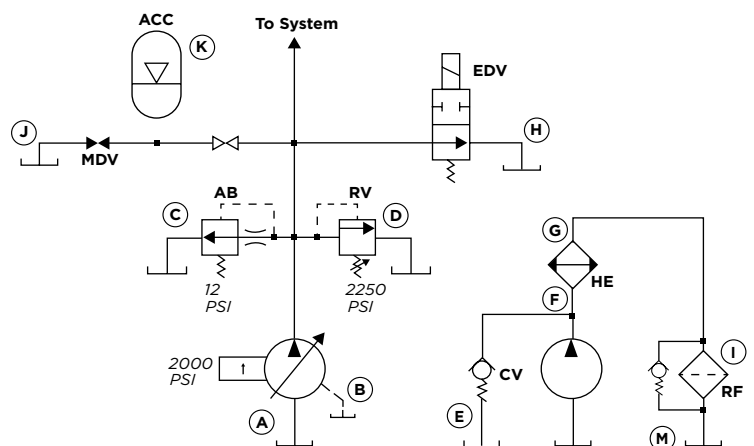

Figure 1. A schematic for a typical hydraulic system
A schematic for a typical hydraulic system is shown in Figure 1. The circled letters indicate the points in the system that should be shot and recorded with an infrared camera.
Check the suction and case drain lines of the pump by recording the temperatures at points “A” and “B” in Figure 1. The oil in the “A”
Check the tank line temperature of the air bleed valve at point "C" in Figure 1. The purpose of the air bleed valve is to automatically bleed air out of the line when the pump is first started. These valves are most commonly found on systems where the pump is mounted above the oil level. Once the air is bled out and the hydraulic pressure builds to the spring setting (approximately 12 pounds per square inch), the valve will shift closed. The valve is relatively small and can only handle a flow rate of 2
Check the tank line temperature of the relief valve (RV) at point "D" in Figure 1. In a system where a pressure-compensating pump is used, the relief valve spring should be set 250-300 pounds per square inch (PSI) above the compensator setting. The purpose of the relief valve is to provide a flow path in the event the compensator spool fails to shift and reduce the pump volume to a near 0 GPM output. The tank line of the relief valve should be at ambient temperature.
A check valve (CV) is commonly used in a filtering and cooling loop, as shown on the schematic in Figure 1. The purpose of the check valve is to protect the heat exchanger from high pressure. The rating of the check valve spring is usually 65-100 PSI. If the cooler is of the air design, the internal
Often an oil filter (RF) will have an internal bypass check valve, as shown on the schematic in Figure 1. The purpose of this check valve is to provide a flow path for the oil to return to the reservoir in the event the element becomes contaminated. This prevents damage to the filter element. The temperature of the filter base should be compared to the temperature of the element housing. When the element becomes plugged, the housing will be cooler than the base. While many oil filters have visual dirt alarms to indicate the element condition, they should not be relied upon, as they have a tendency to fail over time.